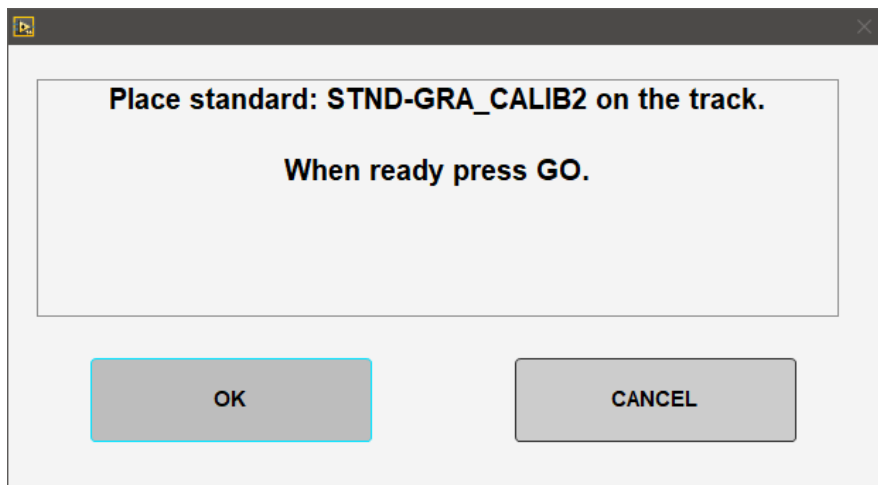

Figure 5. GRA Calibration window.
1. Select **Instruments: GRA Calibrate** and the **GRA Calibration** window will open (*Figure 5*).